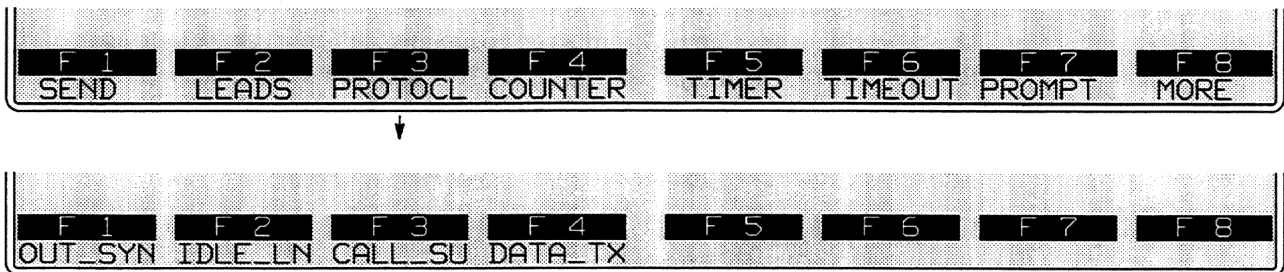

Figure 36-9 The X.21 layer package provides two different “phases” of the transmitter and the receivers, *Call Setup* and *Data Transfer*.
The X.21 layer package provides two different “phases” of the transmitter and the receivers. These phases are called CALL_SETUP and DATA_TRANSFER, and they are entered into the program via softkey in the ACTIONS softkey rack that branches below PROTOCL. See Figure 36-9.
2. *Data transfer.* When you press the softkey for DATA_TX (Figure 36-9) or type DATA_TRANSFER in an Actions block on the spreadsheet, you are sending the unit into data–transfer phase. In this phase, the unit monitors and sends according to the parameters selected by the user on the Line Setup menu. See Section 5.